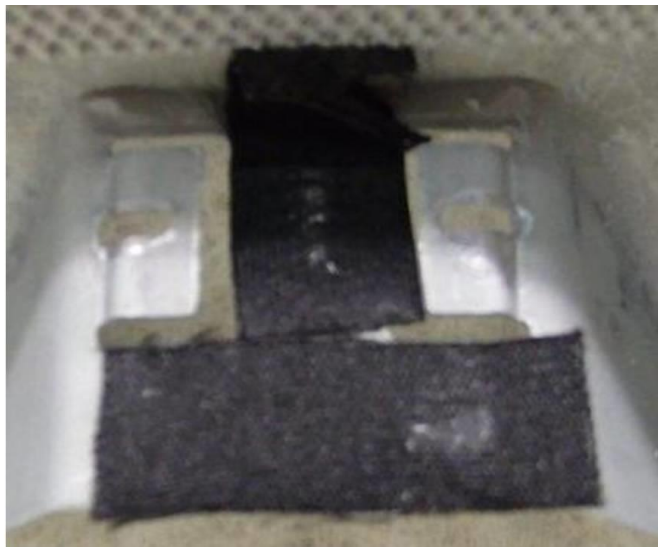

Figure 2. Location of the fleece adhesive tape application.
3. Remove the clips and apply the fleece adhesive tape underneath them, as shown (Figure 2).